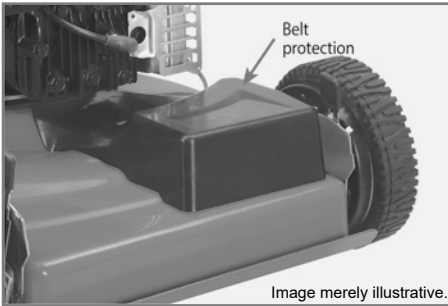

Figure 6
- ✓ Remove the belt protection (Fig. 6).
- ✓ Replace the belt protection (Fig. 6).